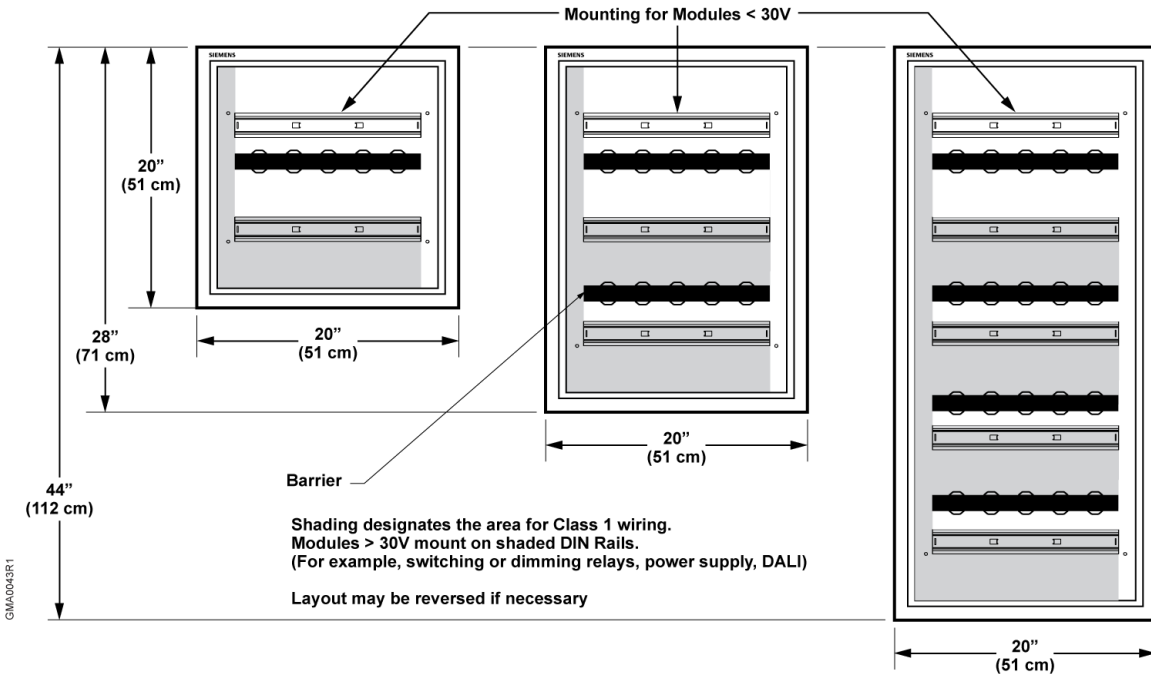
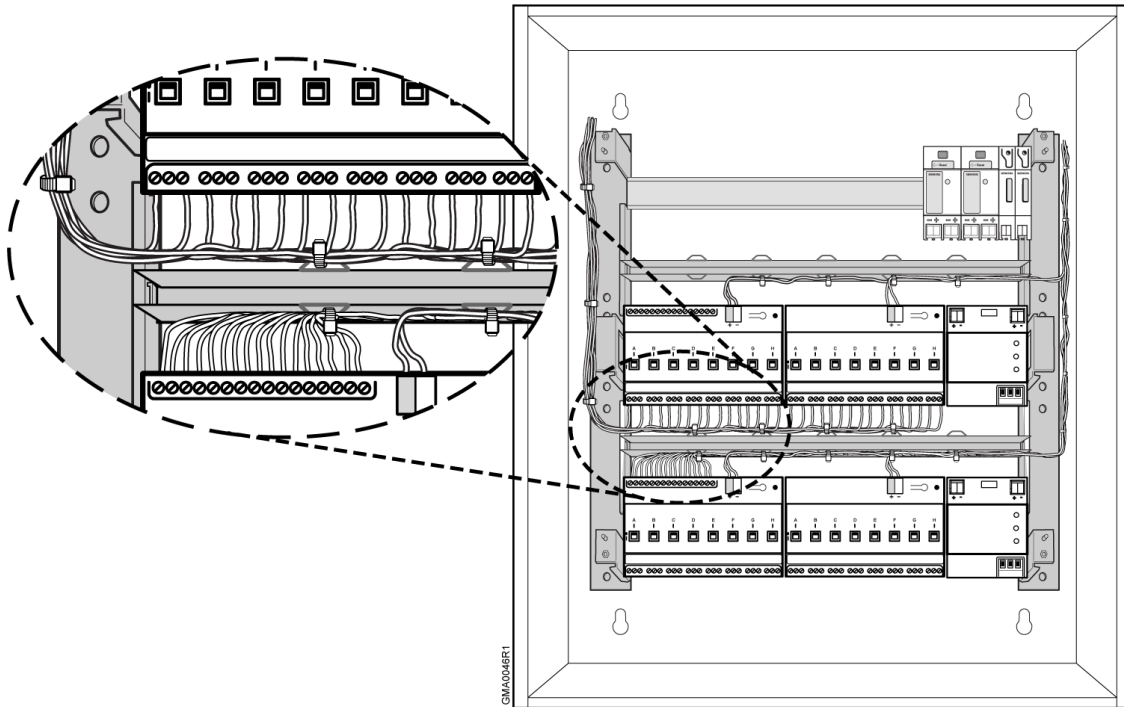

Figure 4: Enclosure Dimensions and Module Placement.
Figure 5: Using the Wire Barrier to Maintain Class 1 and Class 2 Wire Separation.
- Determine the entry locations for wiring. See Figure 2 and Figure 4.
- To make wiring separation easier and reduce wiring terminations, use the top DIN rail for low voltage devices that require a Data Rail 190/x2. See Figure 4 and Figure 5.
7. Using wire ties, secure the Class 1 and Class 2 wires to opposite edges of the wire barrier to maintain wire separation. See the magnified section of Figure 5 for an example.